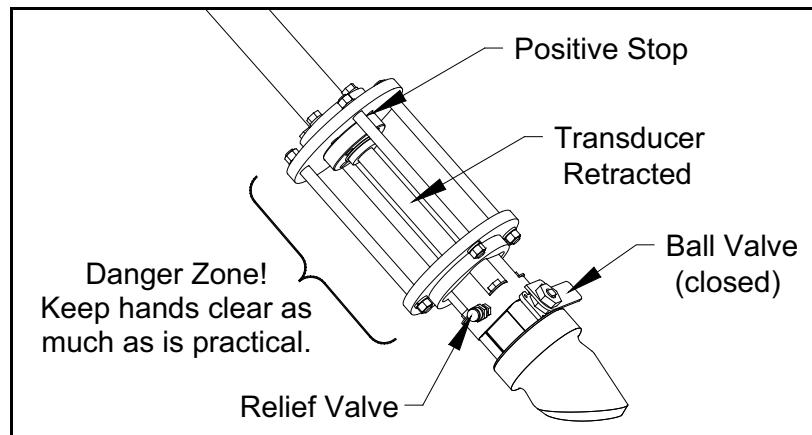

Figure 84: Transducer Retracted
7. Using the hydraulic pump valve, slowly release pressure from the hydraulic ram until the transducer has retracted to the positive stop in the mechanism (see *Figure 84* below).
6. Slide the T11 transducer back to the positive stop of the insertion mechanism (see *Figure 84* on page 100). Verify that the pressure relief valve is closed and torqued to 15 ft-lb.